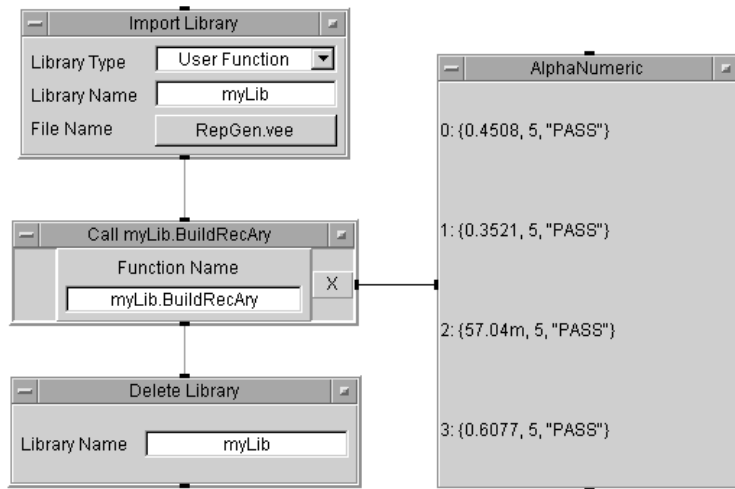

Figure 199 Calling a Function from a Library
- 8 Run the program. It should look like Figure 199. Save the program as **libraries.vee**.
- If an imported function has the same name as a local function, it is allowed, but the local functions are called if only the function name is used. You can explicitly call the imported function with the `MyLib_func()` syntax as in the Call object in Figure 199.